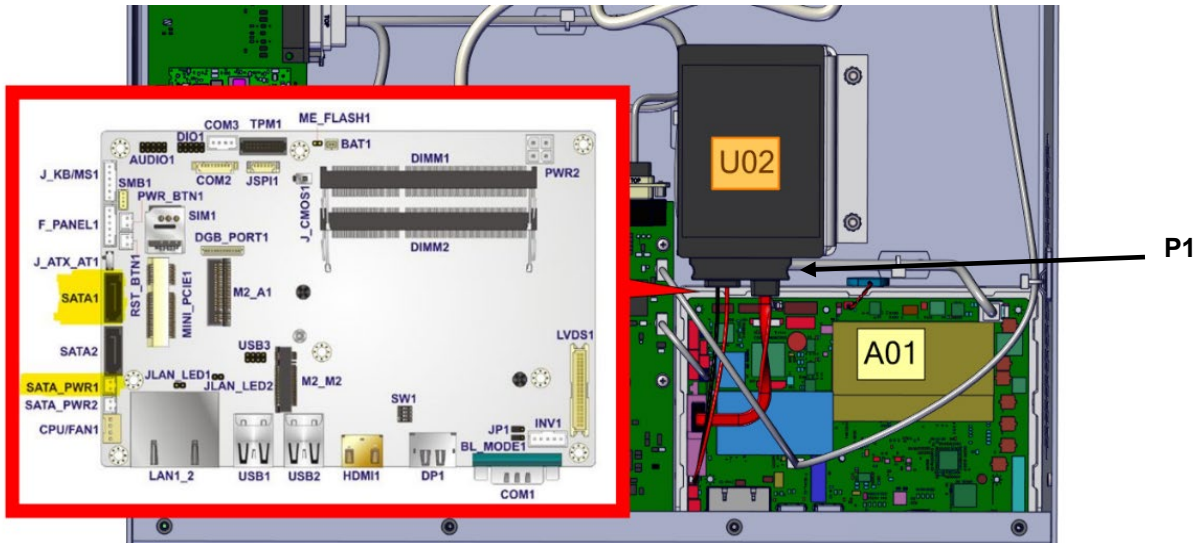

Figure 2: SSD Assembly Removal
- (e) Remove and retain the thirteen (13) M3 Phillips head screws, securing the top cover on the module.
- (f) Disconnect P1 (large black connector) from the SSD assembly (see Figure 2). **Do not** remove SATA1 or SATA_PWR1 connectors.
- (a) Reversing step 3 (h) through 3 (e), using the retained hardware, install the SSD from the Field Mod kit and re-install the Controller's top cover. Refer to Figure 2 if necessary.